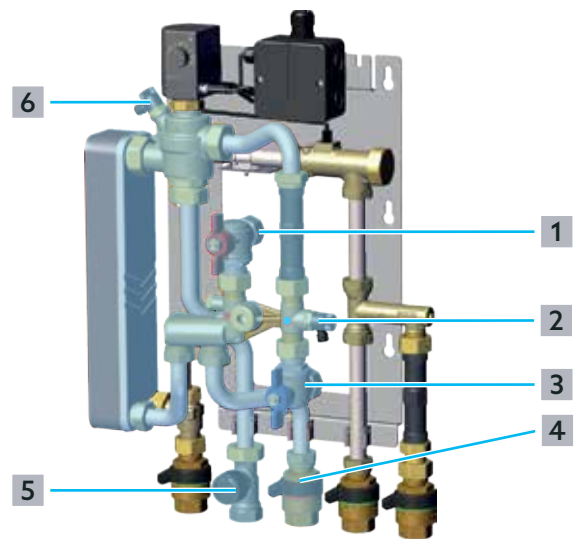

Fig. 14: Filling and venting the heating circuit
- 1 Check that the drain valve ((2) in Fig. 14 on page 21) and the vent valve (6) in the primary circuit are closed.
- 2 Open the ceramic disc valve in the heating circuit supply (4).
- 3 Open the zone valve in the heating circuit return (5).
- 4 Slowly open the angle ball valve in the primary supply (1) to fill the dwelling station.
- 7 As soon as water escapes without bubbles, close the drain valve ((2) in Fig. 14 on page 21).
- 8 Open the vent valve (6) in the heating circuit slightly.
- 9 As soon as water escapes without bubbles, close the vent valve (6).